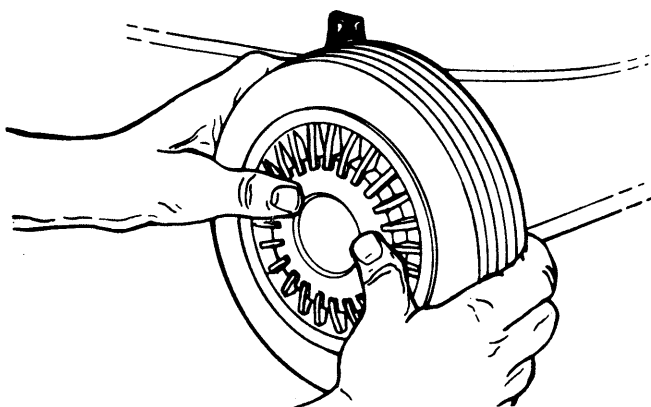

FIGURE 9.—Optional Hub Caps
2. If your mower is equipped with 2" wide tires, place hub caps in position against the inner hub of the wheel. Press firmly around the center portion of hub cap in a circular motion, similar to installing a lid on a round, plastic container. See figure 9. The hub caps are flexible and will snap over the wheel hubs.